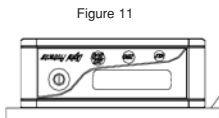

Figure 11
3. Turn the unit over, still on the same plane making it upside down, as in figure 11, then press the Zero key until the LCD displays -0-.